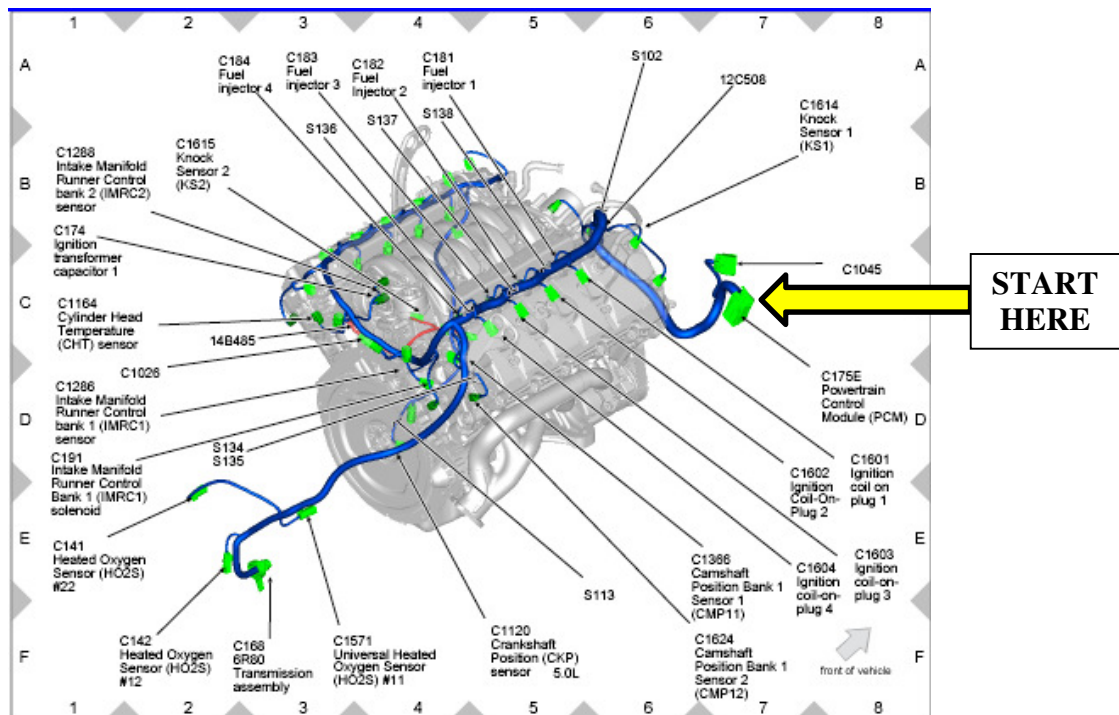

Figure 2 – Rear View of Engine.
1. Identify proper mounting location for the PCM, Power Distribution Box (Item C) & Inline Fuse Holder. Locate the PCM connector (C175E) on the engine harness as indicated in Figures 2 and 3 by the "START HERE" arrow.